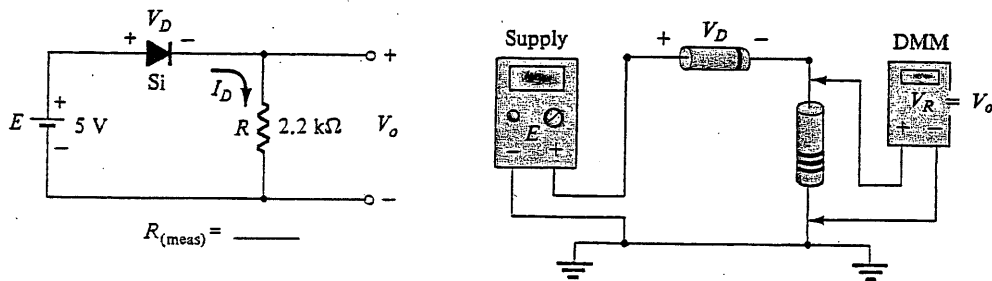

Figure 3-3
- a. Construct the circuit of Fig. 3.3. Record the measured value of  $R$ .